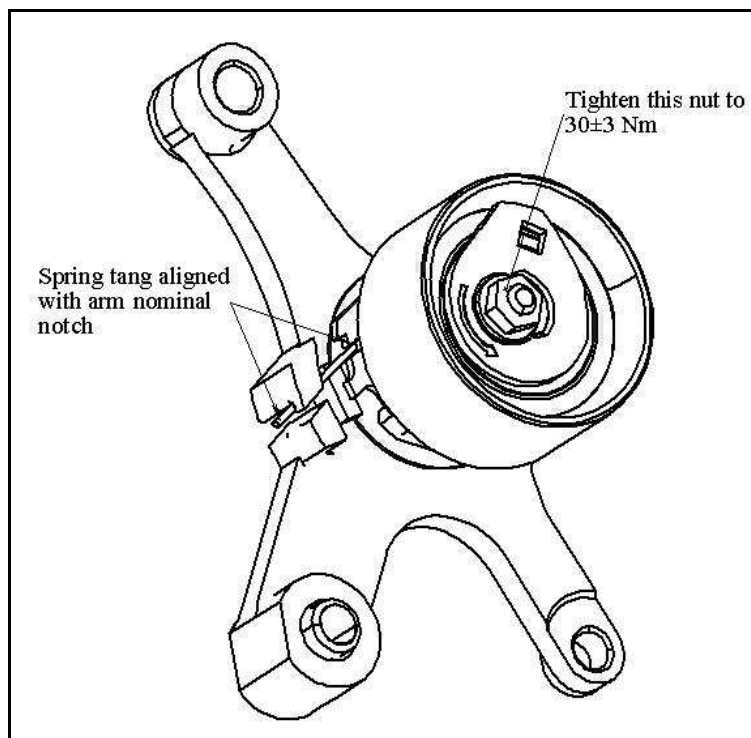

Figure 6. Tensioner Shown at Nominal Position
If the Spring Tang aligns within *Arm Nominal Position Notch*, see Fig. 6. The installation is complete.
14. Rotate the *Installation Shaft* with the 1/4" Square Key until the Spring Tang (see Fig. 3) aligns within *Arm Nominal Position Notch*, see Figs 6.